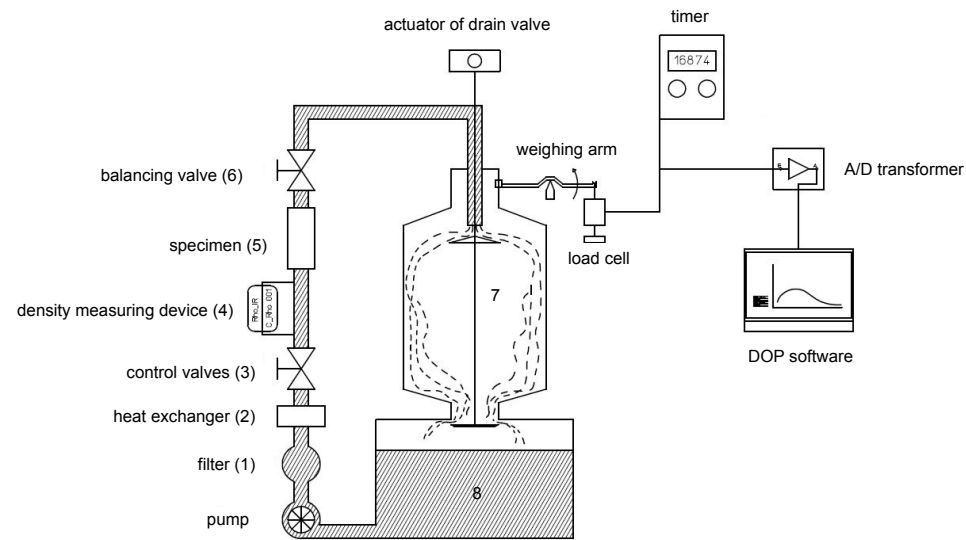

Fig. 8-2: Weighing system – flow rate
The liquid in the reservoir is continuously pumped through a closed hydraulic circuit (see Fig. 8-2). It first flows through the filter (1) and heat exchanger (2), which keeps the temperature and therefore the viscosity of the calibration medium constant. Then the test liquid flows through the control valves (3), density measuring device (4), specimen (5), balancing valve (6), weighing tank (7) and finally back into the reservoir (8). A deflection cone at the intake of the weighing tank ensures even distribution of the calibration liquid in the tank.